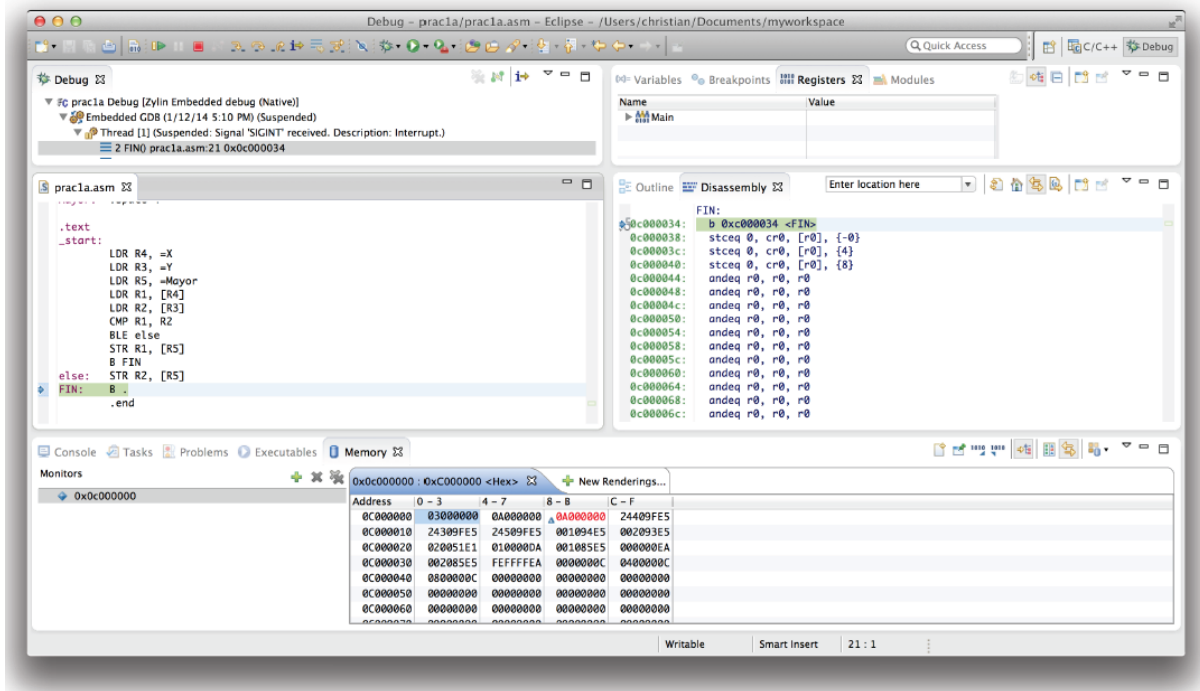

Figure 1.20 Memory contents after the complete execution of the program.
- How can we know whether the code has run successfully? If so, the largest of both input data must have been written to the memory location reserved for this purpose, which we had labeled as Largest. You can check its value in the memory viewer, which will appear marked in red as shown in Figure 1.20.